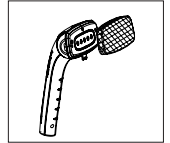

Figure 14
- Place the cloth cover over the steam nozzle (Figure 14).